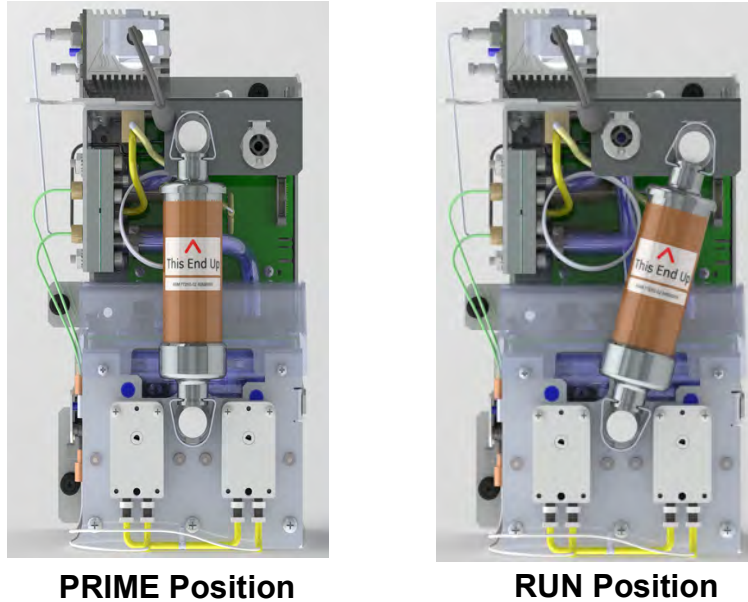

Figure 52: Resin Cartridge — “Prime” and “Run” Positions
9. After verifying that the water level has stabilized to **just below** the top of the reservoir, remove the top valve of the resin cartridge from the prime position. While holding the DI cartridge, simultaneously press the latches on the *Prime* port and the *DI Pump Outlet* port to eject the cartridge. See Figure 52 on page 198.